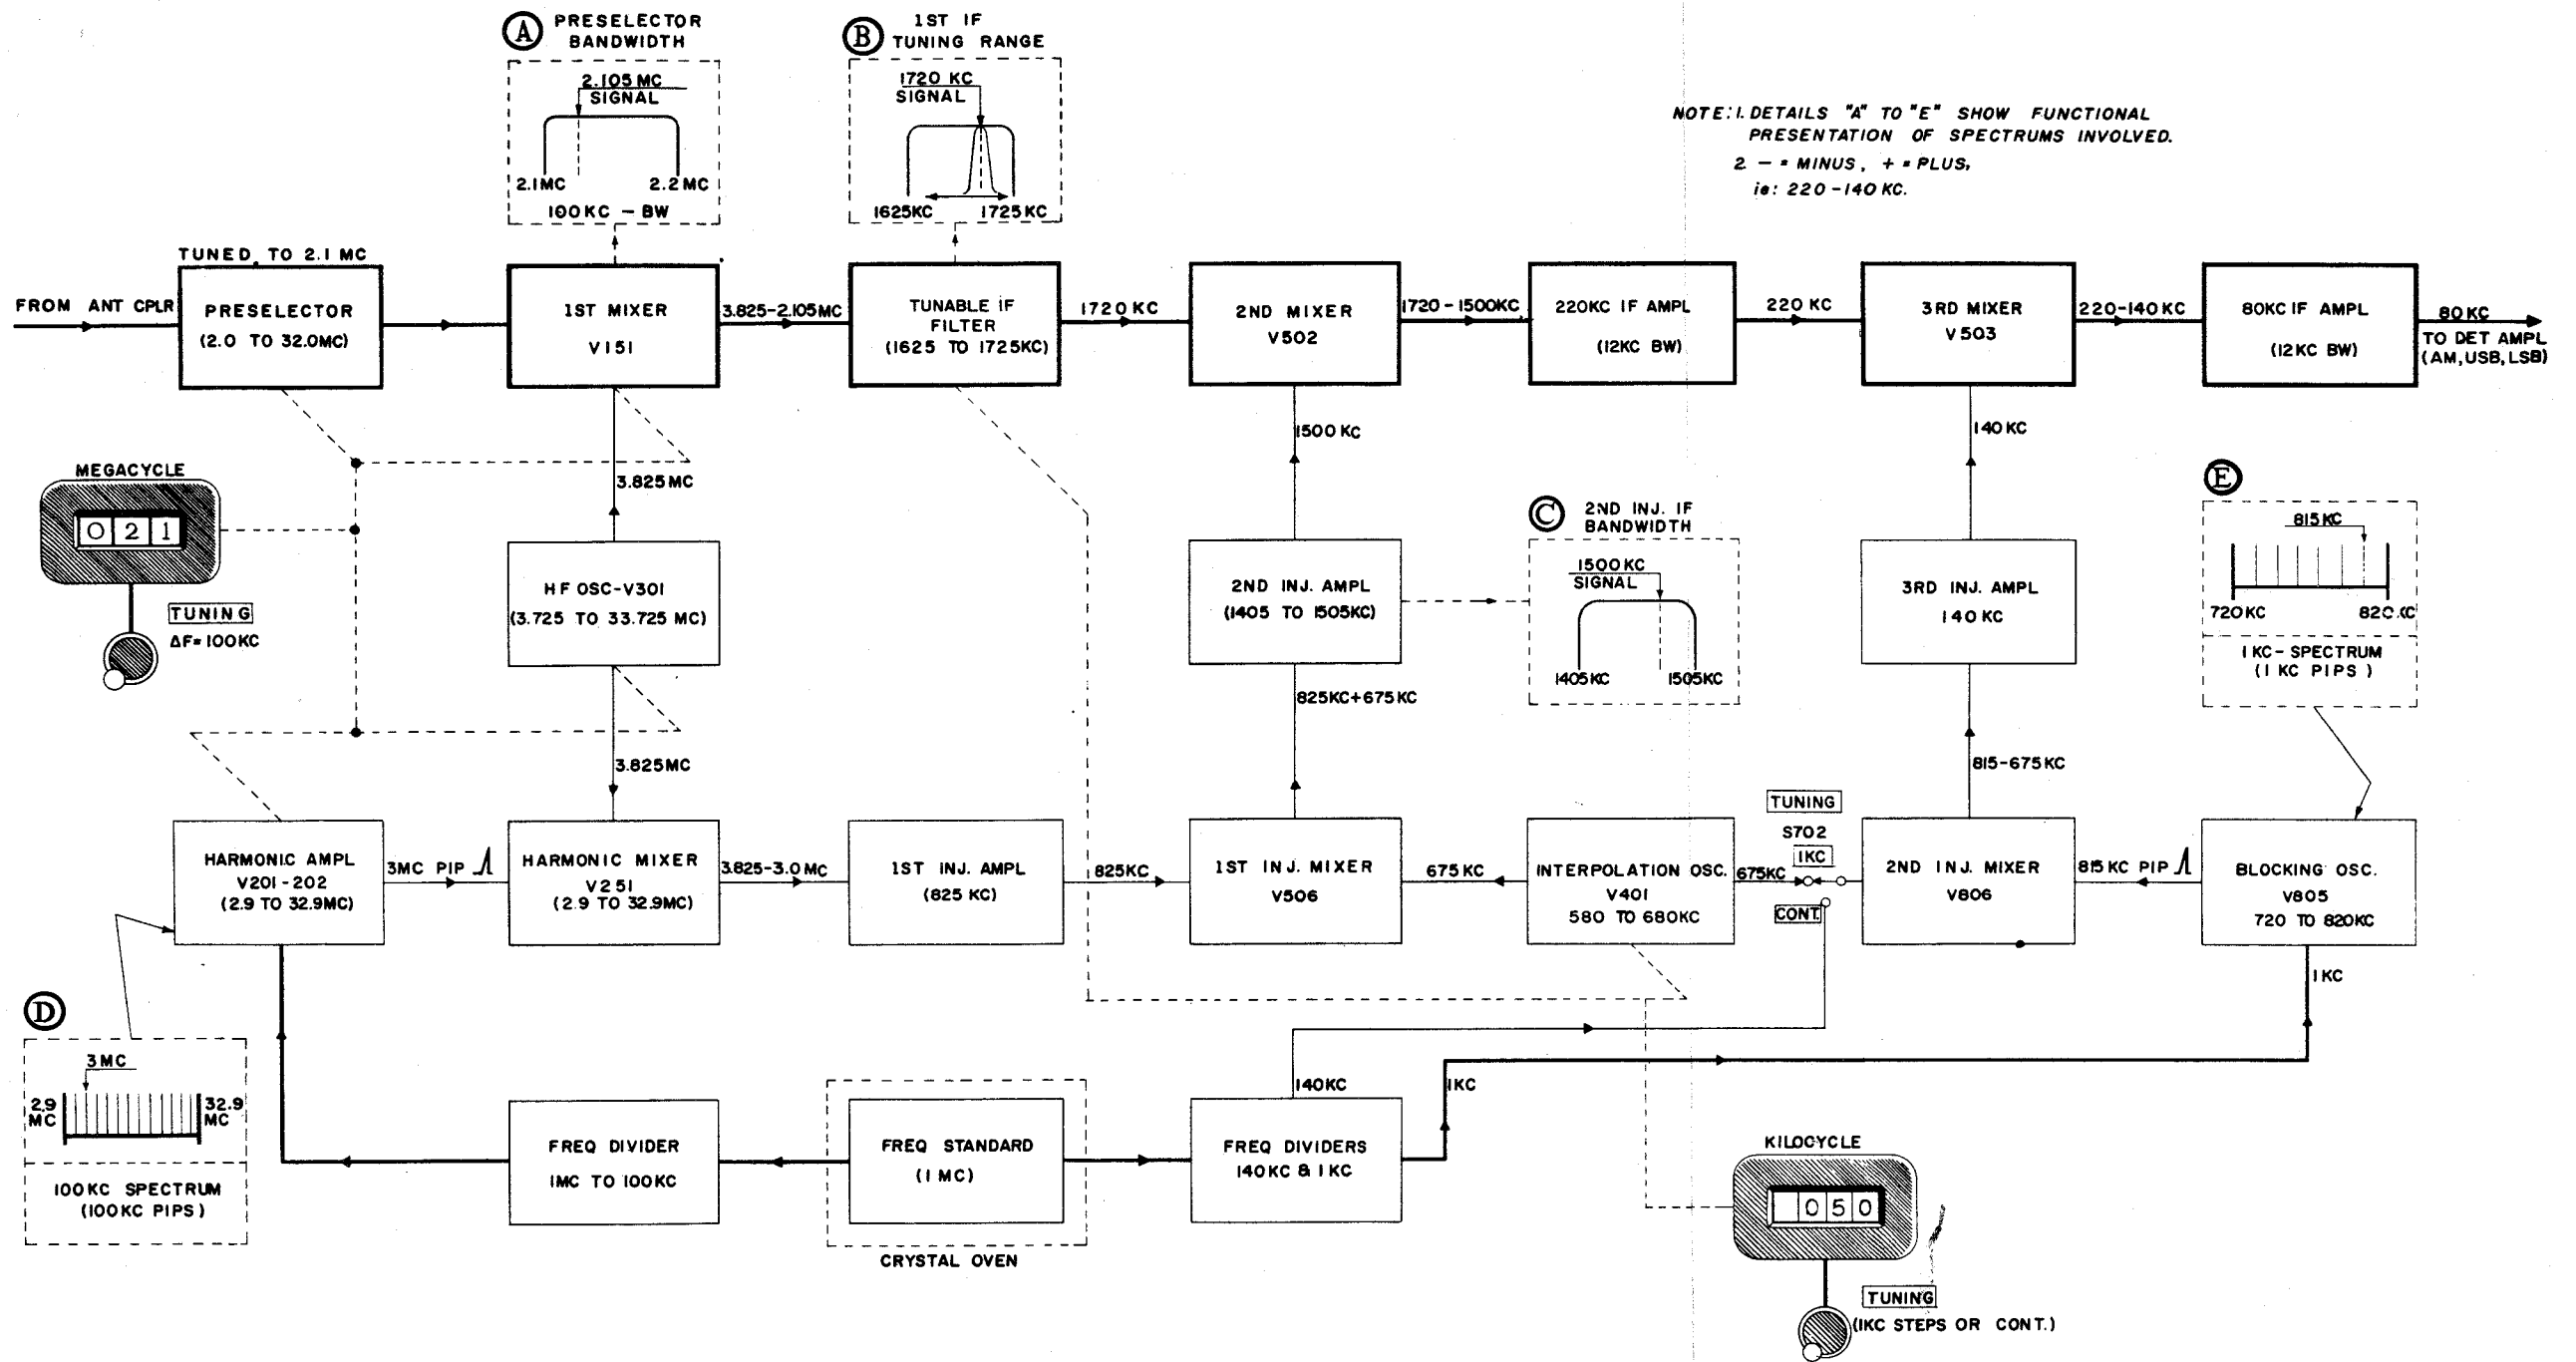

Figure 4-5. Radio Receiving Sets AN/WRR-2 and AN/FRR-59,
frequency stability. Figure 4-5 is a basic tuning diagram of the receiver in the incremental mode, tuned, as an example, to 2.105 mc.
(1) HF OSCILLATOR.—This drift-canceling circuit stabilizes the 220 kc output of the second mixer (V502) by compensating for changes in the HF oscillator frequency. As shown in figure 4-5, the second mixer receives two input signals—one (1,720 kc) from the tunable IF filter, the other (1,500 kc) from the second injection amplifier. Both are derived from the 3.825 mc output of the HF oscillator. A change of frequency in the HF oscillator output will affect, inversely by equal amounts, both inputs to the second mixer, thereby eliminating all effects of drift.
(2) INTERPOLATION OSCILLATOR.—The second drift-canceling circuit stabilizes the 80 kc output of the third mixer (V503) by compensating for changes in the output of the interpolation oscillator. As with the other circuit, the third mixer receives two input frequencies—220 kc from the 220 kc IF amplifier and 140 kc from the third injection amplifier, both derived from the 675 kc output of the interpolation oscillator. Any variation in the 675 kc output affects both inputs at V503 inversely in equal amounts, canceling the drift effect.